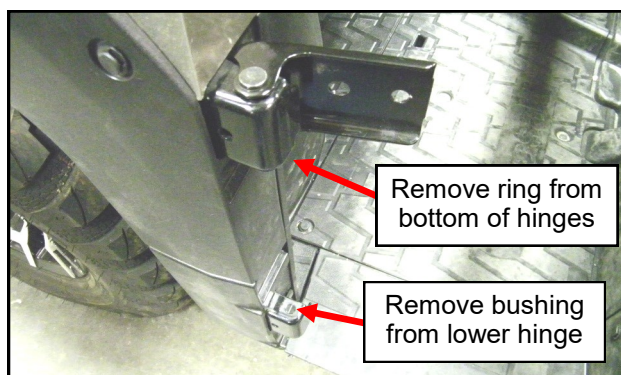

Fig. 1.3 Factory door hinges (8)
**1.3** Per figure 1.3, remove all (8) factory door hinges by removing the retaining ring and pin from each hinge. Remove the plastic bushing from the lower front hinge on both sides of the vehicle.